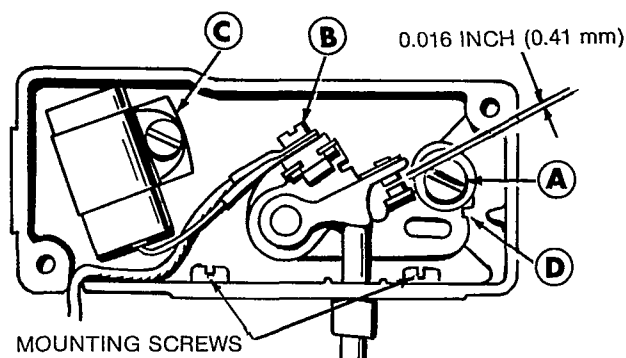

FIGURE 11. BREAKER POINT ADJUSTMENT (SPEC A AND B)
1. Remove the two screws and the cover on the breaker box, Figure 11.
3. Refer to Figure 11. Remove mounting screw (A) and pull the points out of the box just far enough so screw (B) can be removed and leads disconnected.
4. Remove screw (C) and replace condenser with a new one.
5. Replace points with a new set but do not completely tighten mounting screw (A).
7. Using a screwdriver inserted in notch (D) on the right side of points, turn points until gap measures 0.016 inch (0.41 mm) with a flat thickness gauge. Tighten mounting screw and recheck gap.